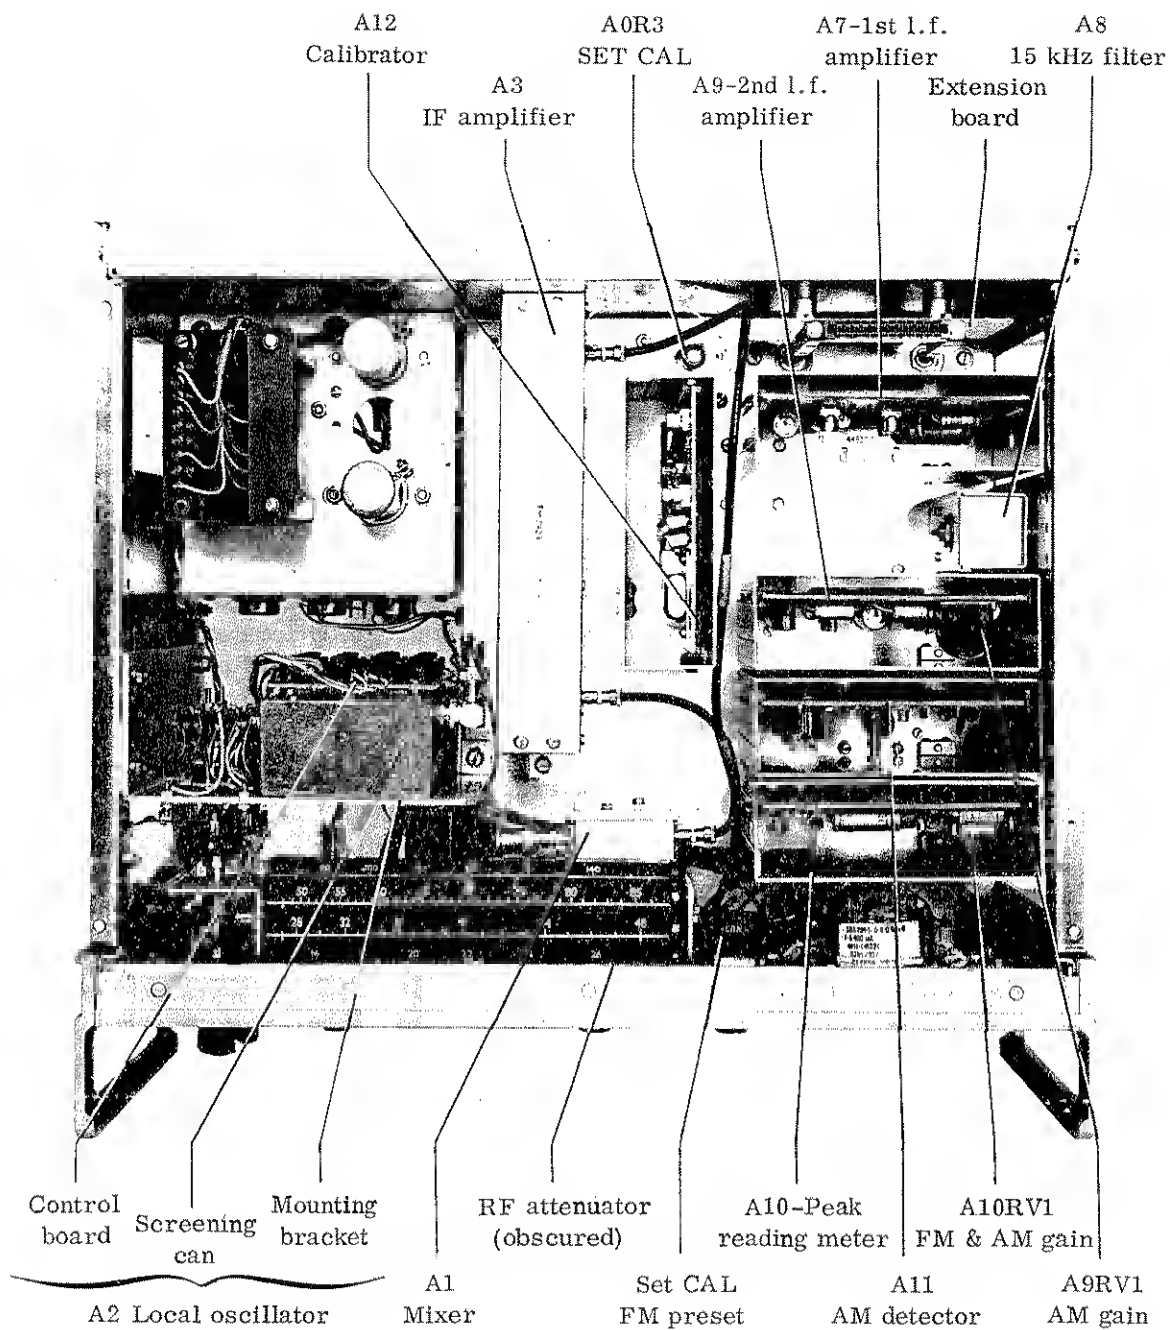

Fig. 4.1 Location of units (top)
Figs. 4.1 and 4.2 show the general location of all units above and below the chassis. Components may be identified by markings on the boards and chassis. For replacement of sub-assemblies and components, see Sects. 5.5 and 5.6.
(4) If the modulation meter reading differs from 145 kHz when switched to either DEV+ or DEV-, adjust the SET CAL FM preset to give the best compromise accuracy between the two measurements. Then turn the FUNCTION switch to SET CAL and, without disturbing the SET CAL FM preset, bring the meter reading to the SET mark by adjusting the internal f.m. preset, A0R3 - see Fig. 4.1. If this has insufficient range select a new value for resistor A0R19.
(5) This check can also be made at other deviations as shown in Table 4.2.
(6) If the deviation errors show a general trend in one direction the presets A0R3, A0R4, A0R2 and A14RV1 should be adjusted to give the best compromise on their respective ranges. As A0R3 affects all ranges it should be adjusted first.